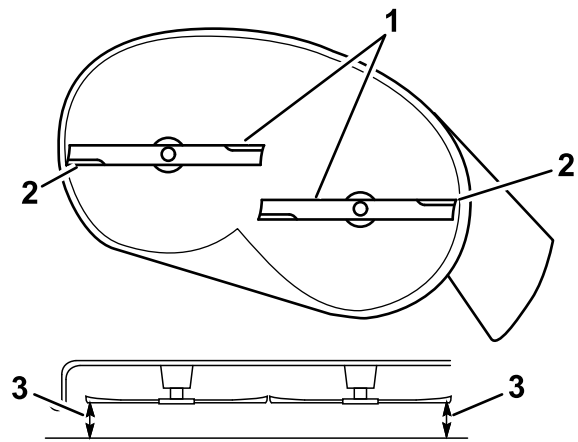

Figure 64
5. Measure between the outside cutting edges and the flat surface (Figure 64).